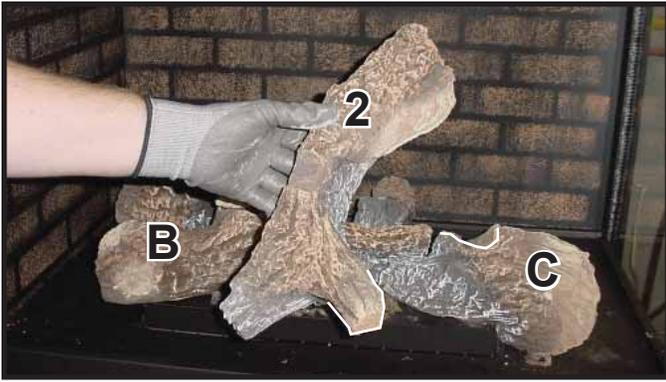
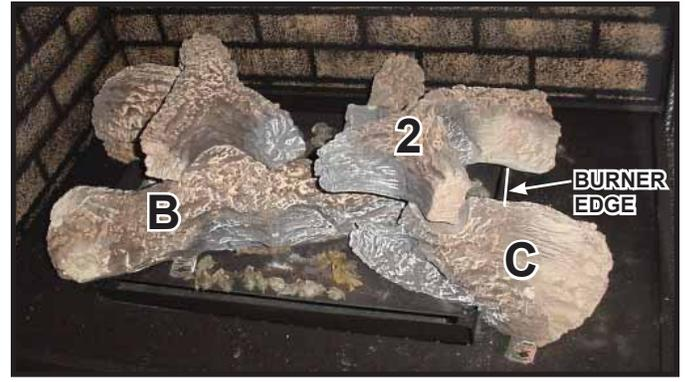

Figure 11. Placement of Log #2
Figure 12. Placement of Log #2
**STEP 2. Log #2 (SRV2129-705):** Locate portion of Log #2 that is highlighted in Figure 11. Place that portion of Log #2 on the indentation on Log C. Log #2 will rest on the tip of Log B. Slide the bottom of Log #2 up to the edge of the burner as shown in Figure 12.